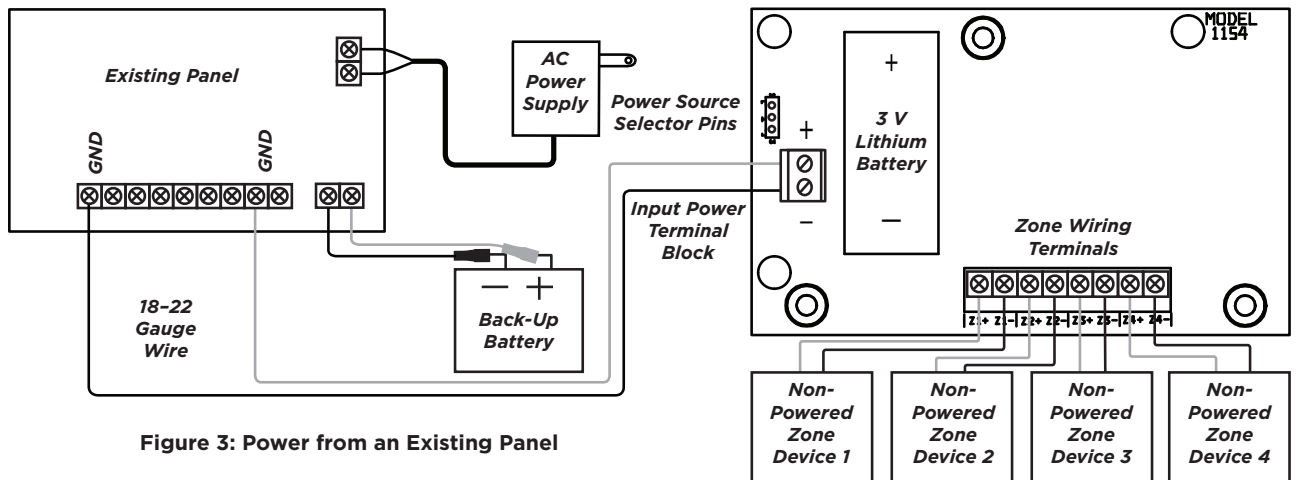

Figure 3: Power from an Existing Panel
2. Using 18–22 gauge wire, connect a black wire to the ground terminal on the existing panel, and a red wire to a terminal on the panel with 12 VDC power. See Figure 3.